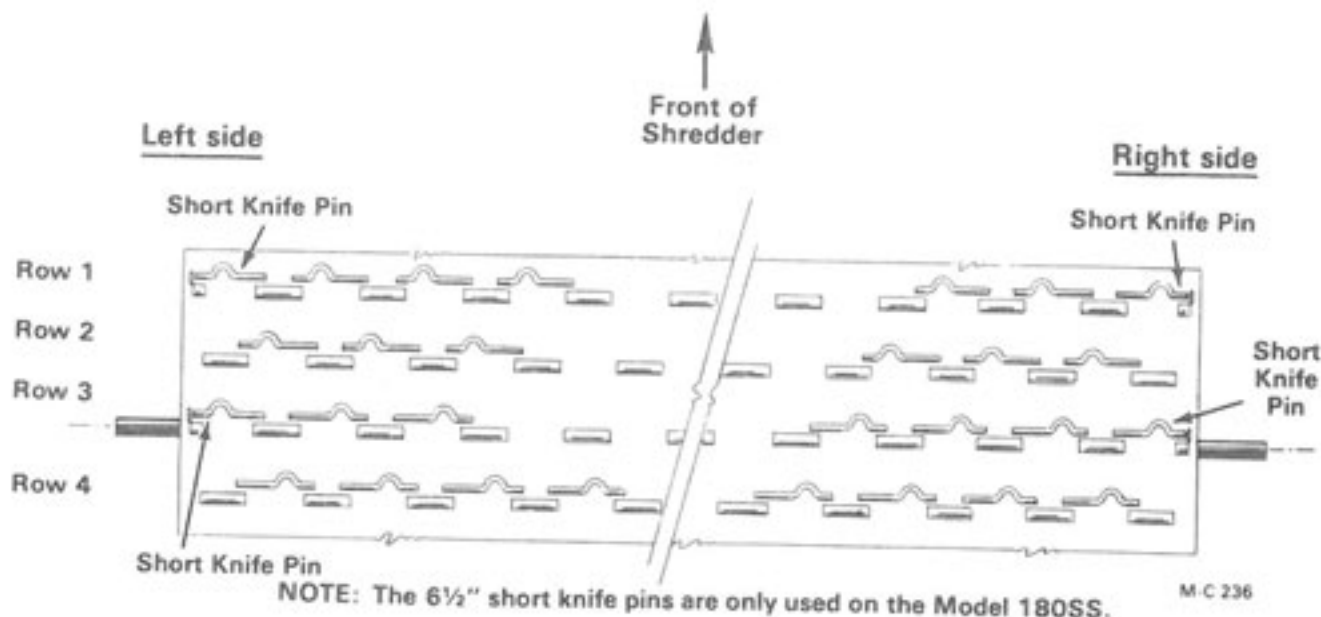

Figure 26
IMPORTANT: To get the correct overlap of knives, the knife pins must be installed as shown in Figure 26 on page 16.
5. Model 180SS has four short knife pins ($\frac{3}{4}$ " OD x $6\frac{1}{2}$ " long) on the rotor and they must be installed at each end of row 1 and 3 as shown in Figure 26. These two rows are 180° apart. All other knife pins are $\frac{3}{4}$ " OD x $7\frac{1}{2}$ " long.
7. The short end of all pins go to the left on rows 1 and 2 and to the right on rows 3 and 4 except the right side of row 1 and the left side of row 3 as shown in Figure 26.